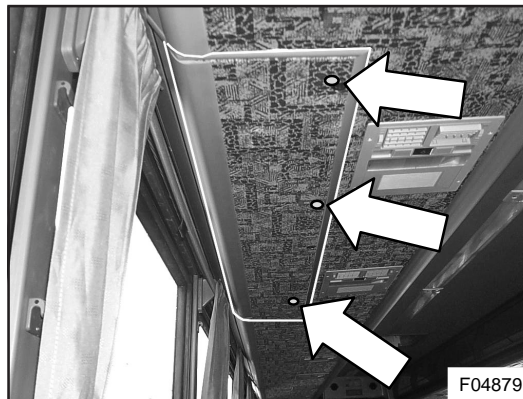

Figure 8: Blowers access panel in bottom of parcel rack
1. Turn the three quick release bolts securing the panel in the bottom of the parcel rack some turns counterclockwise (see Figure 8). Fold down the cover.